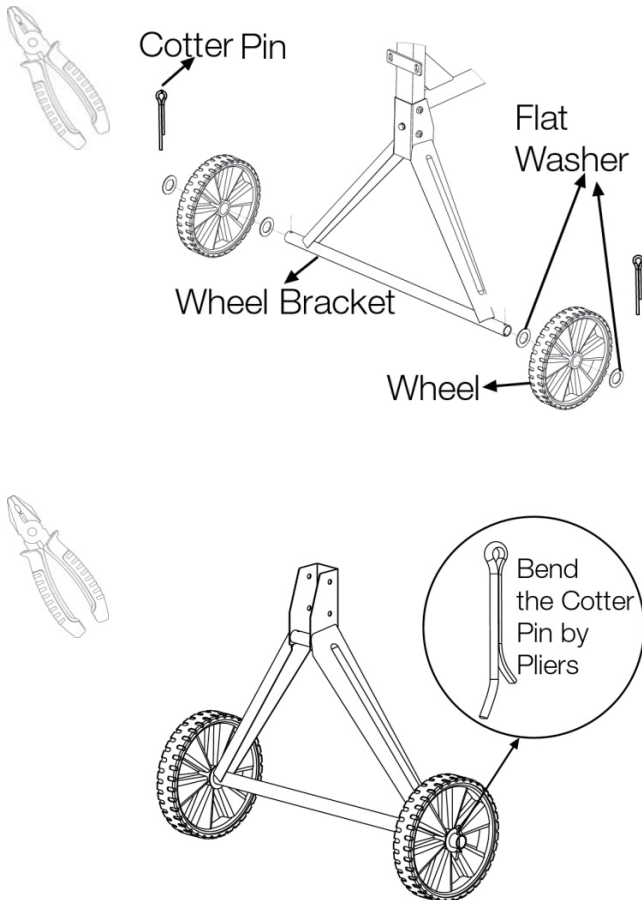

Figure 5
- Slide a Flat Washer, Wheel, and second Flat Washer onto each end of the Wheel Bracket axle. Insert a Cotter Pin through holes in each end of Bracket axle and bend Cotter Pins to secure Wheels. Figure 5